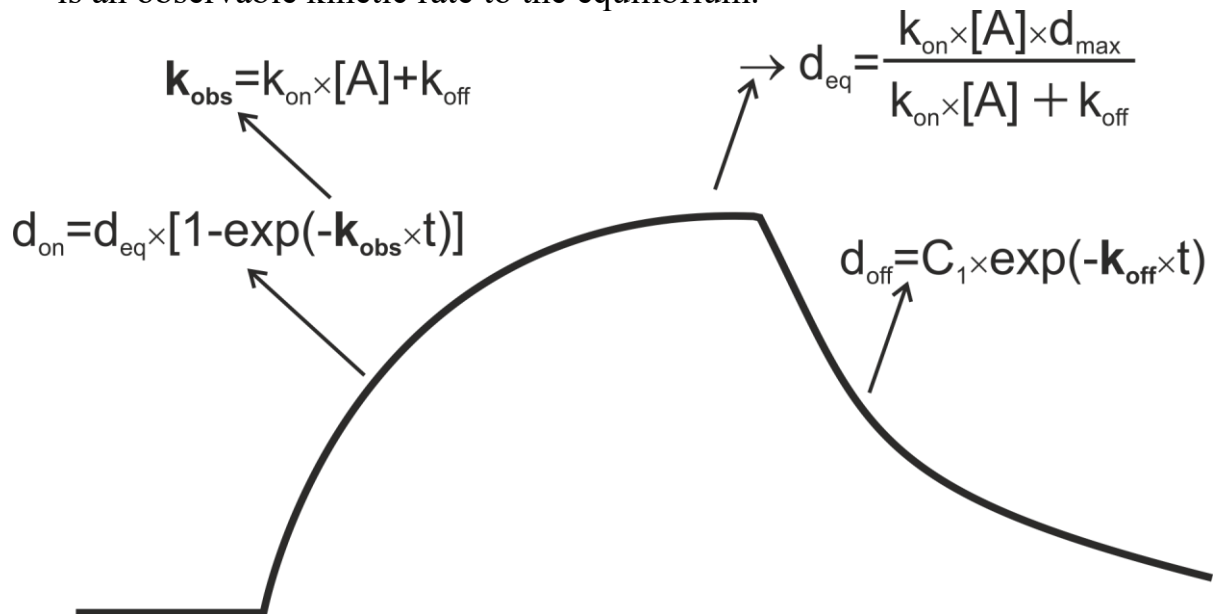

Figure 18. A schematic kinetic curve showing association and dissociation phases.
Several kinetic models for data fit may be chosen in the 'FormFitResults' window (**Figure 15**). In **Figure 16**, one can see available models (A-D) for fit. The main model is a Langmuir model (with and without drift – (B) in **Figure 16**). In this model (schematically illustrated in **Figure 18**):